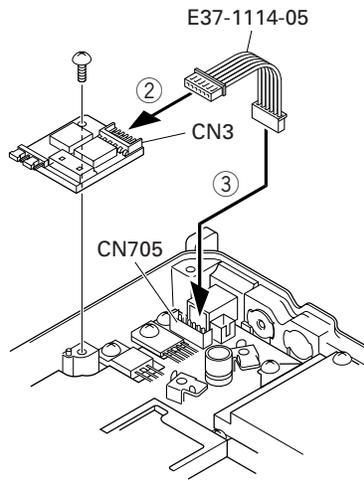

Fig. 2-2
3. Remove the 6-pin jumper connector inserted in the TX-RX unit (A/2) connector (CN705). (①)
4. Insert one side of the lead wire with connector (E37-1114-05) into the relay unit connector (CN3) (②) and the other side into the TX-RX unit (A/2) connector (CN705) (③).
5. Place the relay unit at the position shown in Figure 2-2 and secure it to the chassis with a screw.
6. Remove the cap on the rear of the chassis by pushing it from the inside with your finger. (④)
7. Pass the 6-pin connector of the cable (E37-1113-05) through the chassis hole (⑤) and insert the bush into the chassis hole.
8. Rotate the bush of the cable 90 degrees counterclockwise as viewed from the rear of the chassis. (⑥)
9. Insert the 6-pin connector of the cable into the connector (CN2) of the KAP-2 relay unit. (⑦)